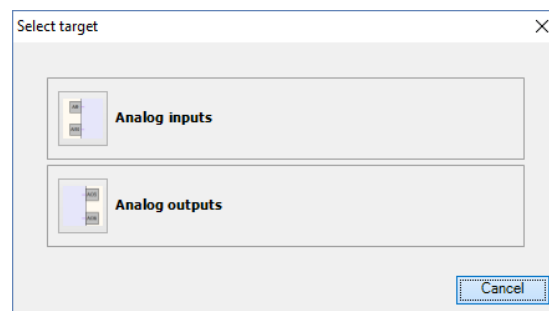

Fig. E.2
6. Select **Analog inputs** as calibration target (Fig. E.2).
8. Select **Analog outputs** as calibration target (Fig. E.2).
6. Select **Analog outputs** as calibration target (Fig. E.2).